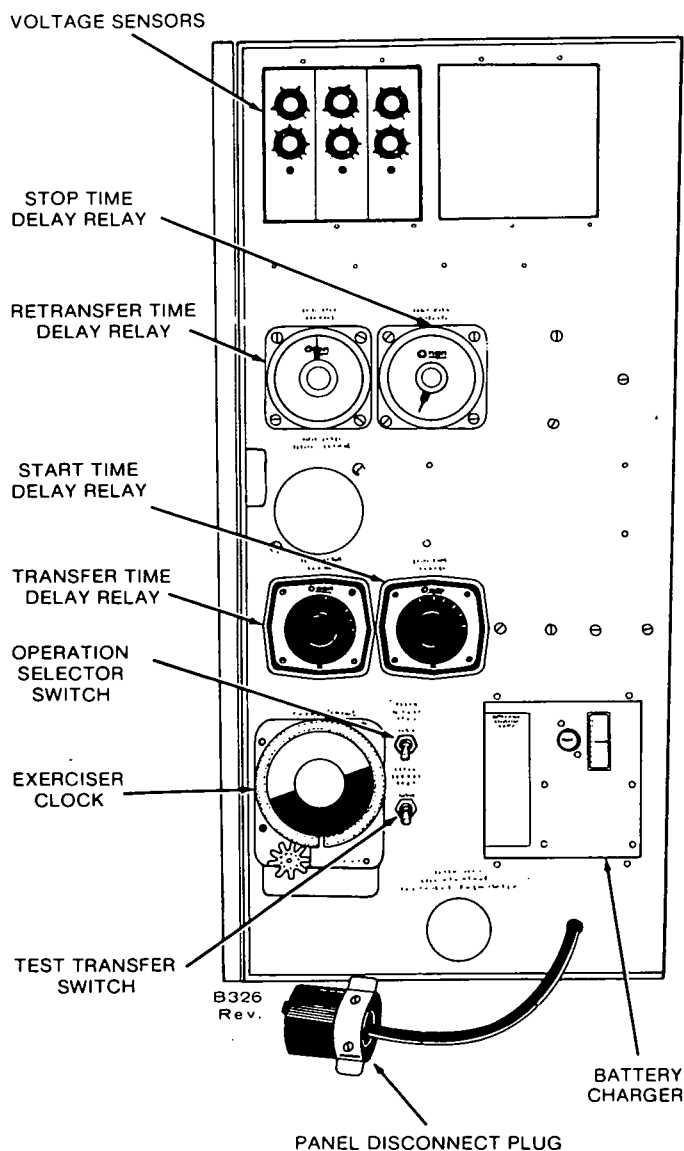

FIGURE 10. RELAY, TWO-WIRE, CONTROL ACCESSORY PANEL
Relay controls use adjustable time delay relays to provide the timing functions required by the application. Relay controls may include, as the application requires: solid-state voltage sensing modules, time delay relays, control switches, a solid-state battery charger, and an exerciser clock. The components of the control are mounted on the hinged control accessory panel as illustrated in Figure 10.
The control accessory panel for a typical two-wire starting, relay control is illustrated in Figure 10. The control accessory panel can be swung open to allow access to the transfer switch. Before opening the control accessory panel: (1) The engine operation selector switch (on the engine control) must be moved to STOP, and (2) The control accessory panel disconnect plug must be removed (when used), removing AC line voltage from the control accessory panel.